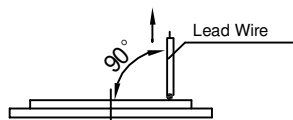

Fig.3.1 Direction of Lead Wire
b) Wire to be soldered on ceramic at the edge&should be pulled up at 90° The element should be hold on bottom and wire should be pulled up .It should withstand at least for 2.8N force(Fig.3.1)